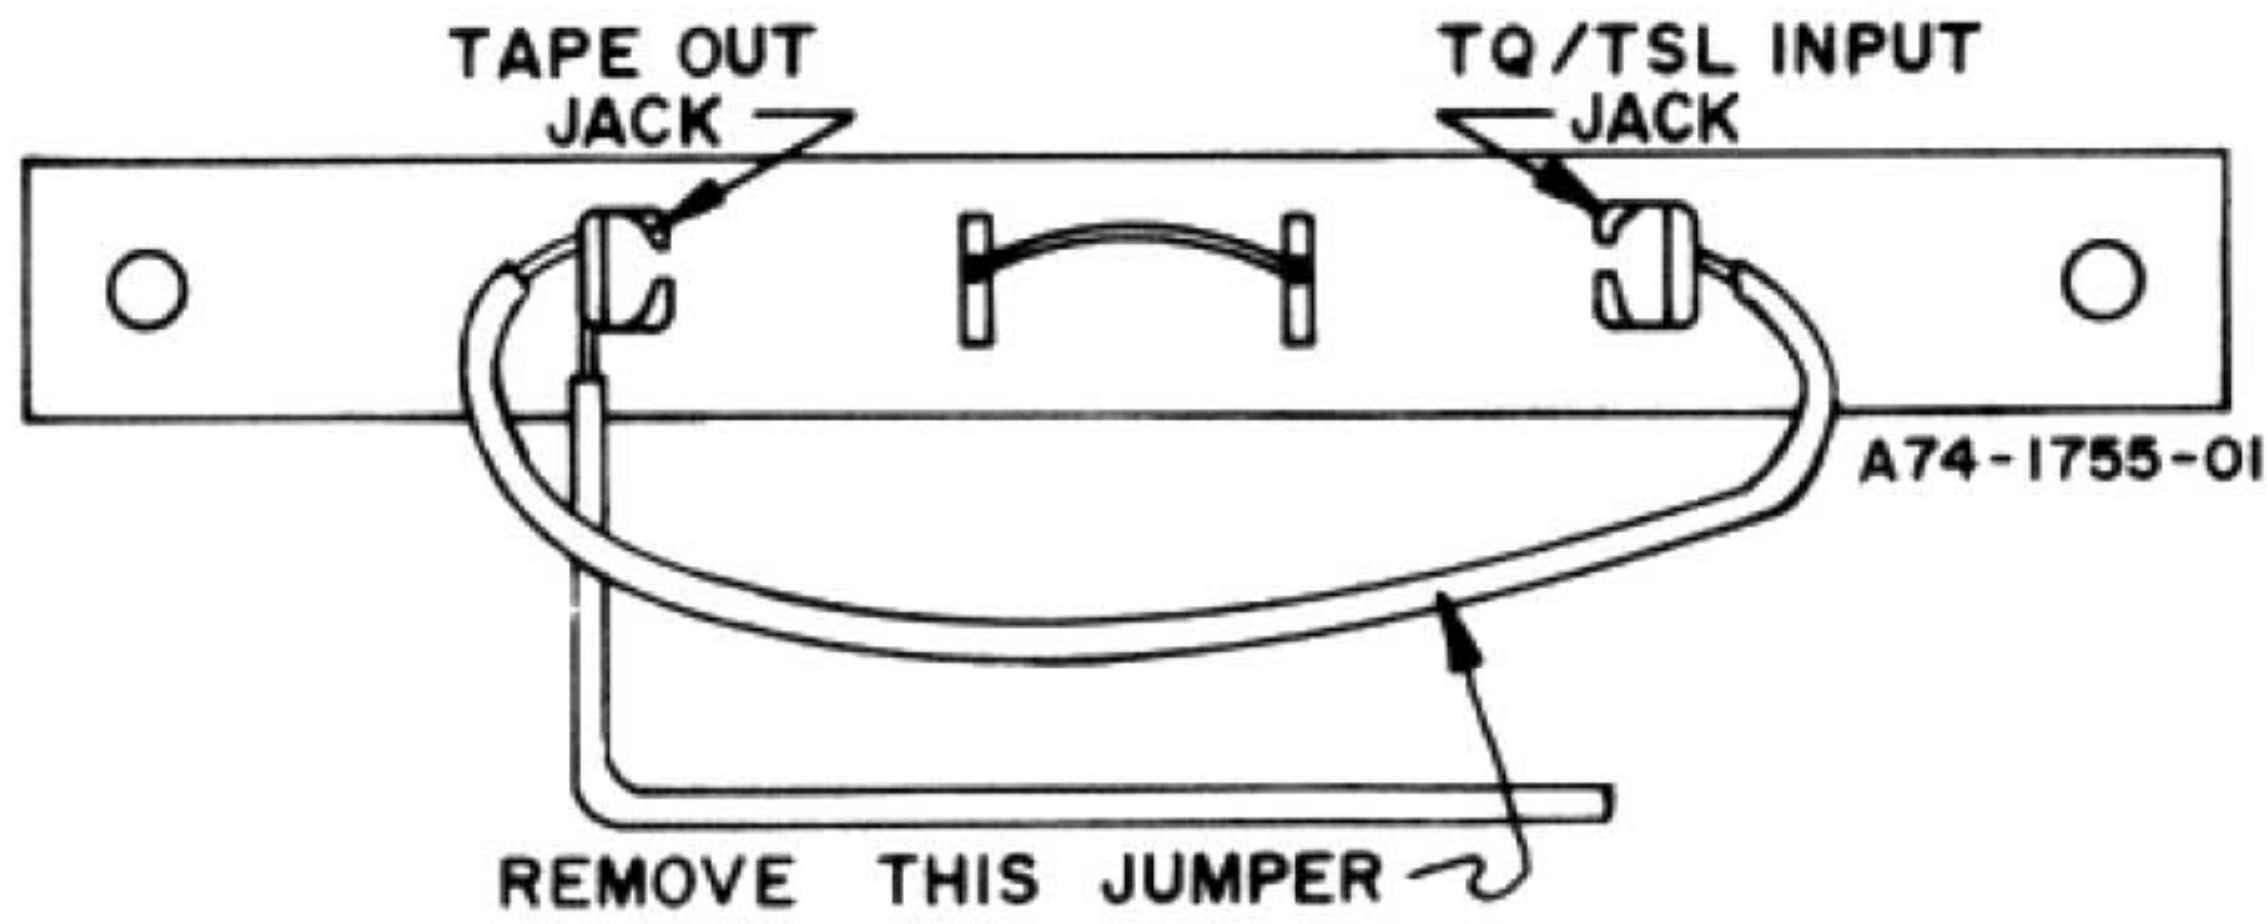
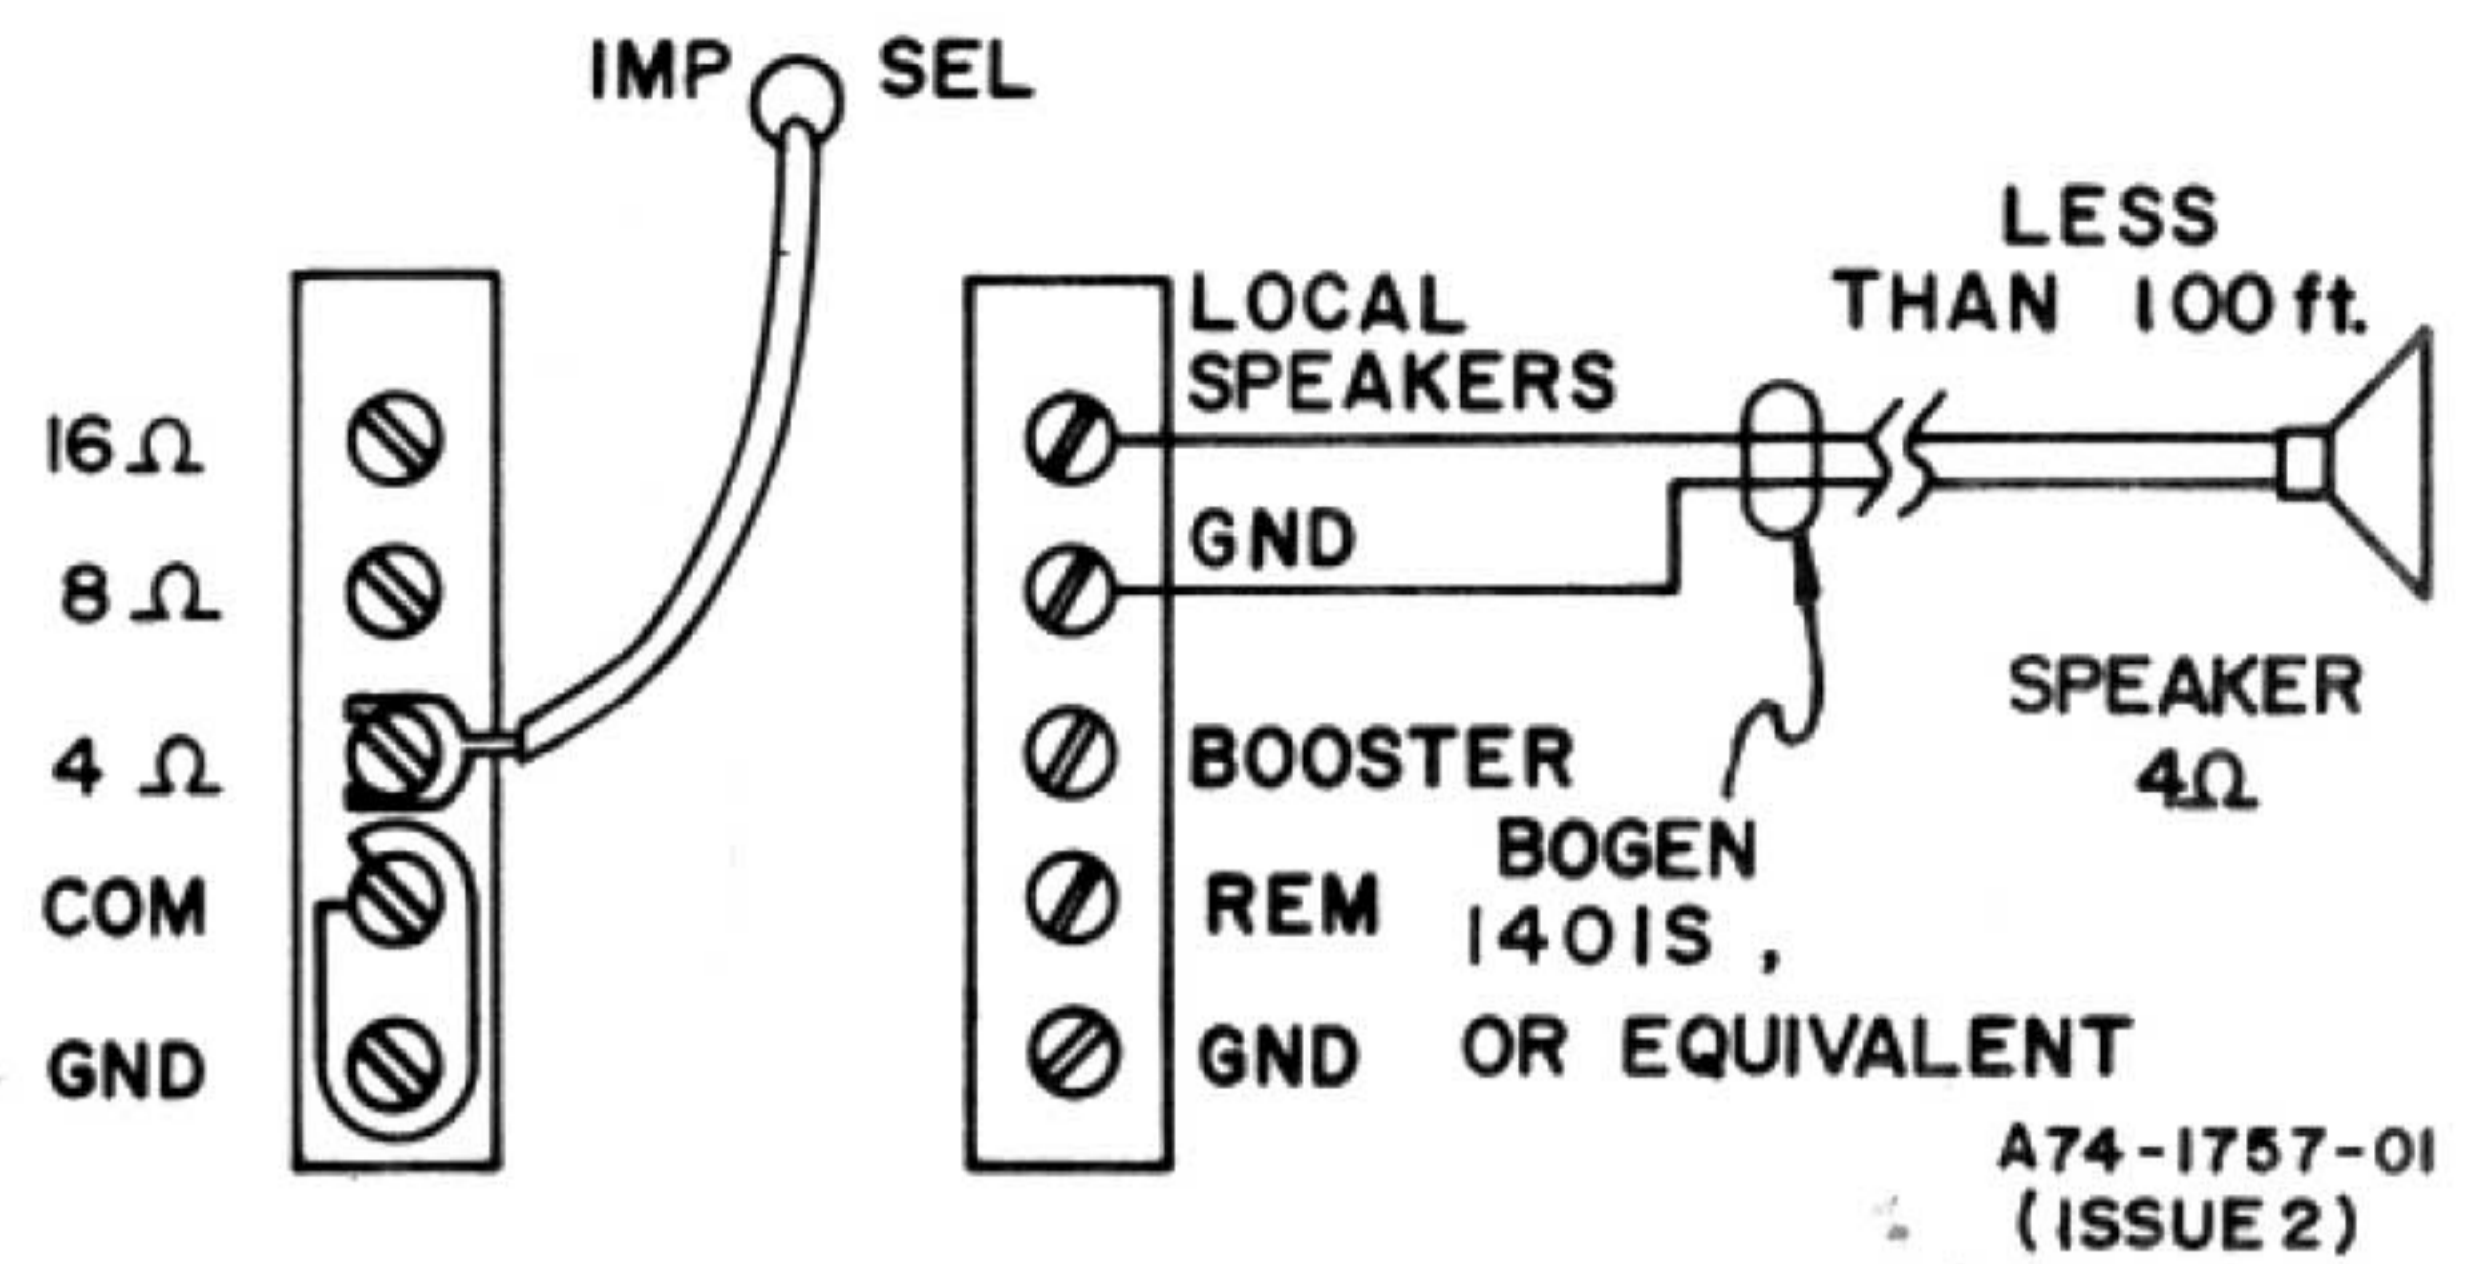
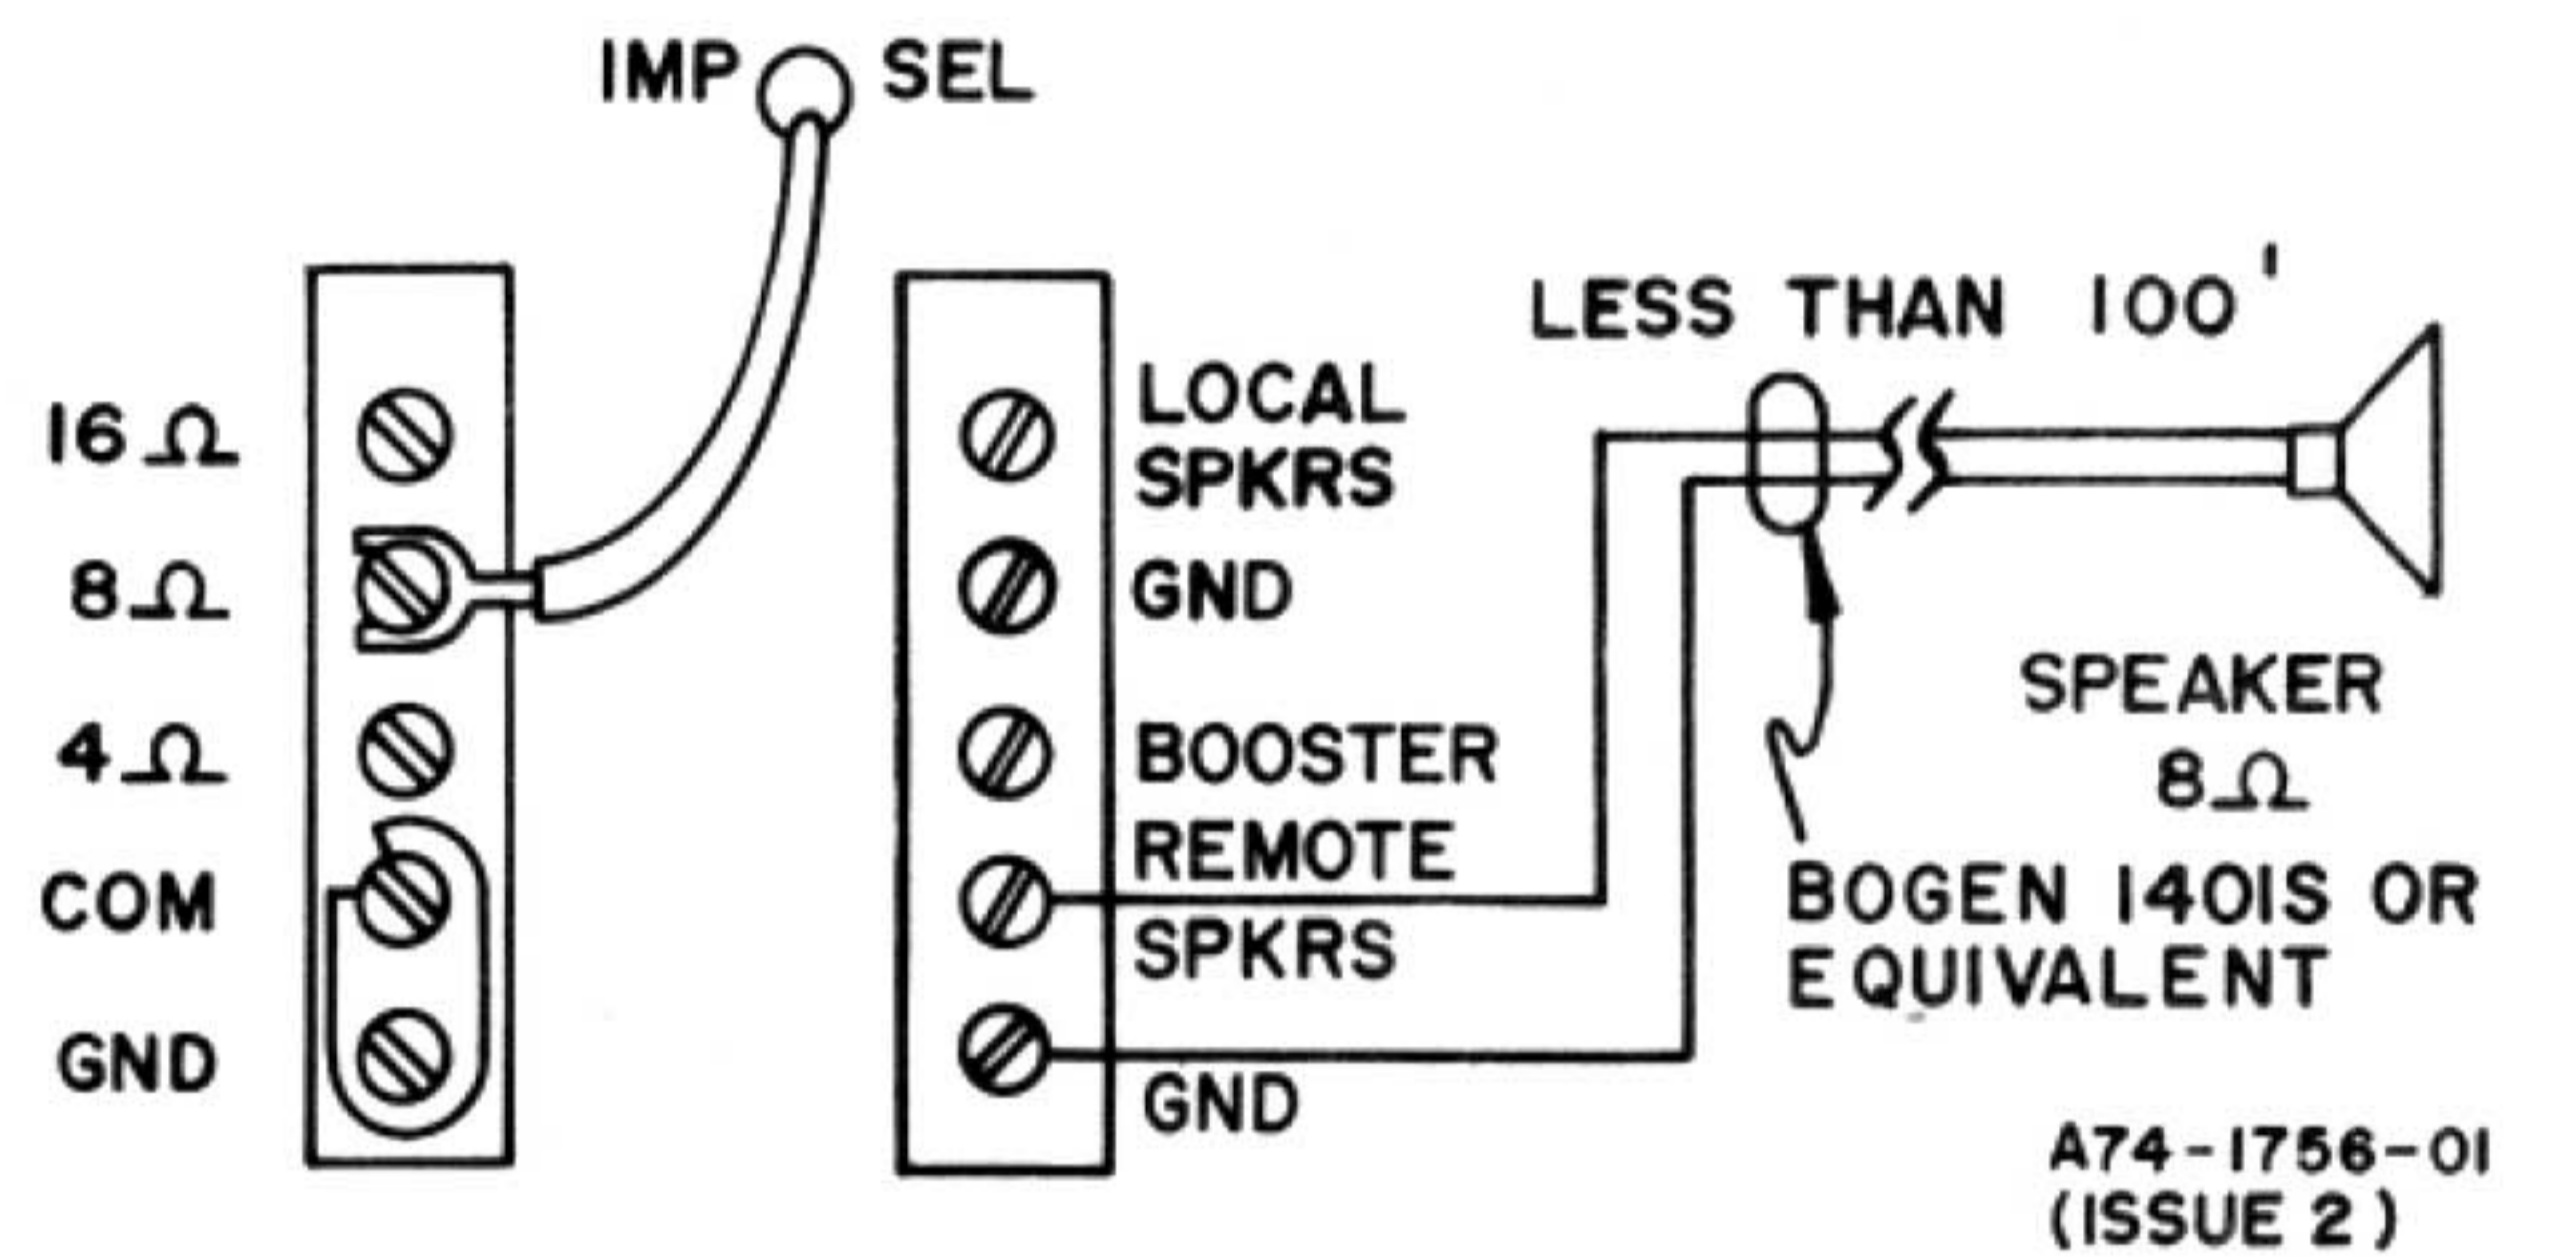

Figure 7 — Modifying RM300 for Telephone or Intercom Paging
Figure 9 — Matching 4Ω Local Speaker
Figure 10 — Matching 8Ω Remote Speaker
Remove RM300 cover and cut the wire jumper between the TAPE OUT and the TQ/TSL jacks (see figure 7). Replace cover and connect cables as shown in figure 8 or figure 9.
1) Connect IMP SEL lead to terminal of left-hand strip that corresponds to impedance of your speaker. Figure 9 shows the impedance connection for a 4 Ω speaker and figure 10 shows the connection for an 8 Ω speaker.
2) Connect one speaker lead to either LOC or REM terminals on the second strip. This depends upon whether you want the speaker to operate from the LOCAL or REMOTE position of the speaker selector switch. Connect the other speaker lead to GND. Figure 9 shows a 4 Ω speaker connected for local operation, while figure 10 shows an 8 Ω speaker connected for remote operation.
3) Note the shorting strap between the COM and GND terminals in figures 9 and 10. This is the standard condition for unbalanced lines with one line grounded. If you wish to use two-conductor shielded cable, remove the straps and connect the cable shield to GND. In this case, connect the speaker wire to COM, not to GND.